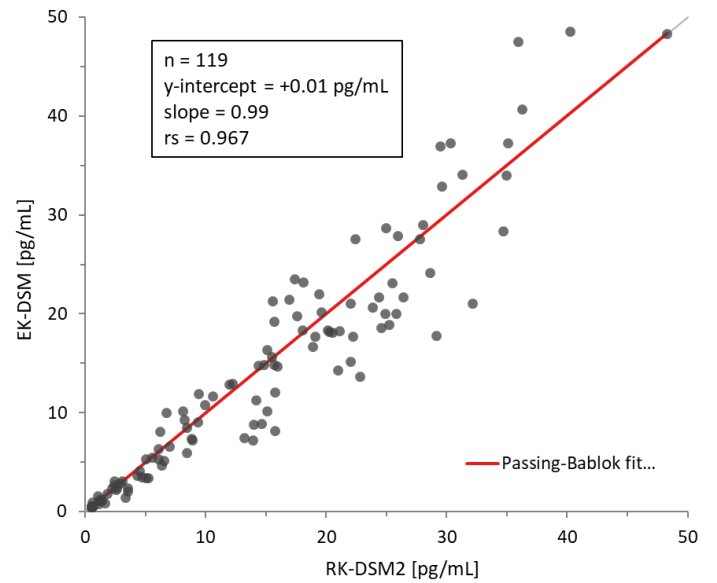

Figure 2
**Method Comparison:** The comparison was done with 119 saliva samples from 20 different donors collected at different daytimes. The samples were analyzed using the presented NovoLytiX Direct Saliva Melatonin ELISA (EK-DSM) as well as the NovoLytiX Direct Saliva Melatonin Radioimmunoassay (RK-DSM2). The Passing-Bablok scatter plot shows an almost identical performance of the two immunoassays ( $y$ -intercept = +0.01 pg/mL; slope = 0.99). The Spearman's correlation factor,  $r_s$ , is 0.967. The comparison data are presented in figure 2.